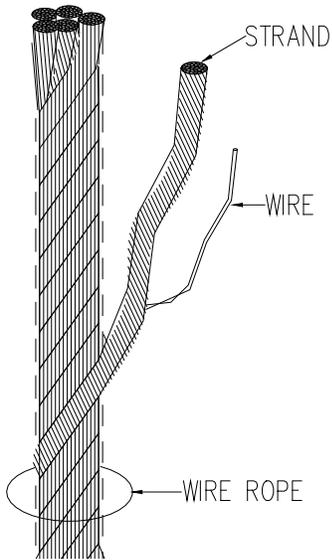

Figure 5-1.
- (b) Six randomly distributed broken wires in one rope lay. A rope lay is the length of rope along which one strand makes a complete revolution around the rope. See Figure 5-1. If a broken wire or wires are localized in the end attachment of an operating rope and making a new attachment can eliminate this condition, this may be done instead of replacing the entire rope. Keeping the rope clean and wound evenly on the winch drum will increase its life and efficiency.